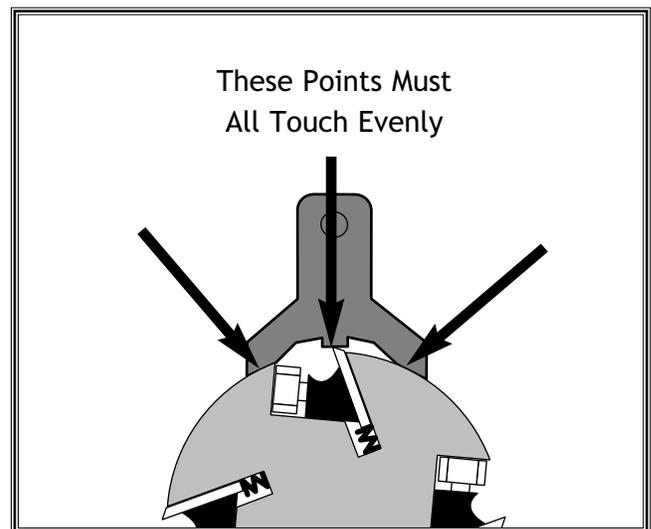

Figure 21. Place the knife setting gauge on the cutterhead as shown to inspect accuracy of knife position in cutterhead.
4. Using the knife setting gauge as shown in **Figure 21**, check the height of the knife. Both gauge feet should sit solidly on the cutterhead and the contact point in the center of the gauge arm should barely touch the tip of the knife.